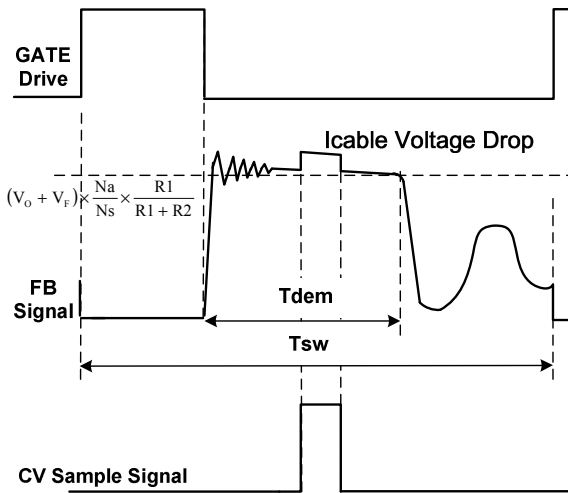

Fig.2
In primary side control, the output voltage is sensed on the auxiliary winding during the transfer of transformer energy to the secondary. Fig.2 illustrates the CV sampling signal timing waveform in JW1502. As shown in Fig.2, it is clear that there is a down slope representing a decreasing total rectifier VF and its voltage drop as the secondary current decreases to zero. To achieve an accurate representation of the secondary output voltage on the auxiliary winding, the CV sampling signal blocks the leakage inductance reset and ringing. When the CV sampling process is over, the internal sample/hold (S&H) circuit captures the error signal and amplifies it through the internal Error Amplifier (EA). The output of EA is sent to the PSR Constant Voltage Modulator (PSR-CVM) for CV control. The internal reference voltage for EA is trimmed to 2V with high accuracy.
During the CV sampling process, an internal variable current source is flowing to FB pin for Cable Drop Compensation (CDC). Thus, there is a step at FB pin in the transformer demagnetization process, as shown in Fig.2. Fig.2 also illustrates the equation for “demagnetization plateau”, where V_o and V_F is the output voltage and diode forward voltage; R_1 and R_2 is the resistor divider connected from the auxiliary winding to FB Pin, N_s and N_a are secondary winding and auxiliary winding respectively.